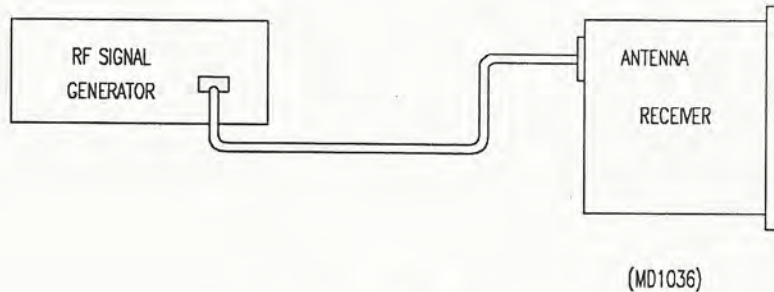

Figure 5-3
1. Connect the equipment as shown in Figure 5-3. Set the controls on the signal generator as follows: